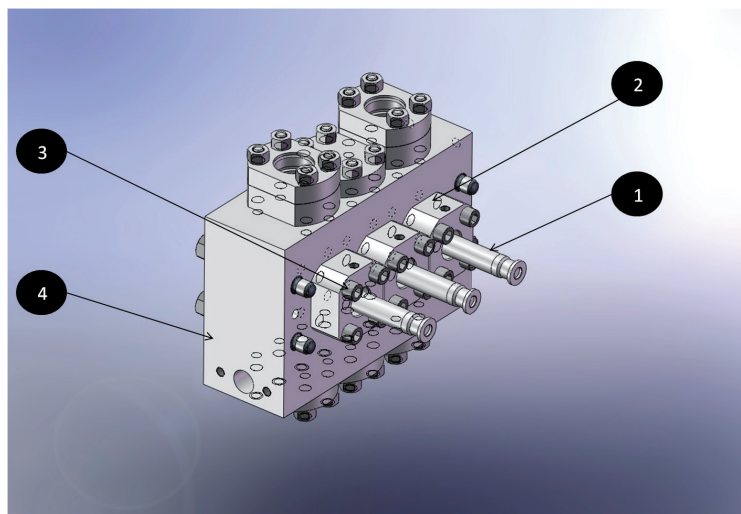

FIG. 7-17
- Referring to Figure 7-17, insert the piston (1) into the packing container flange (2) with the packing already fitted and secure it with the centring grub screws and nuts (3) to the head (4).